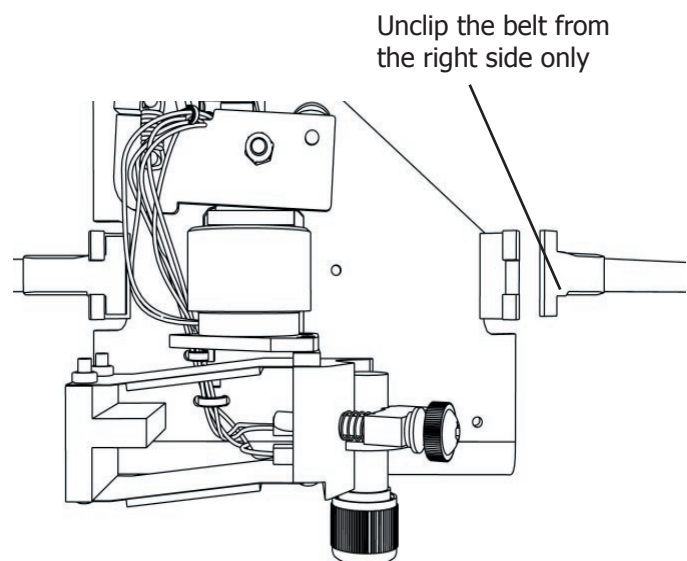

Fig. 2 -Removing the "Y" axis belt from the carriage
- 2) Unclip the right side belt clip from the carriage assembly. See Fig. 2